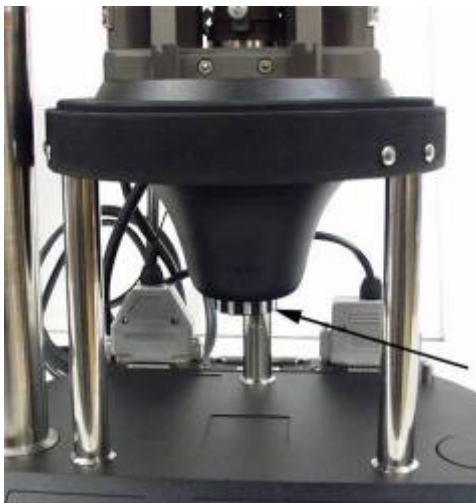

Fig. 2-109
- The substrate with a fixed sample is installed onto the object table of the sample holder. During the installation the substrate is inserted from a side under the clips from the sides of two balls (Fig. 2-107) in such a way that the clips press the substrate and the lower surface of the substrate is supported by three supporting balls (Fig. 2-109).
- In order to move the sample the easiest way is to use the handle of fast feed, which is situated down on the approach unit (Fig. 2-109). The sample moves down when rotating the handle clockwise (if you look from the side of this handle). Besides, the sample may be moved with the help of a step engine with the use of the program of the device operation, please, see (see this Instruction Manual, part 3);
- The easiest way to execute the preliminary landing is to make it by hands with the help of a handle of fast feed (Fig. 2-109). Let us remind you that rotating the handle counter clockwise lifts the sample up (if you look from the side of the handle);